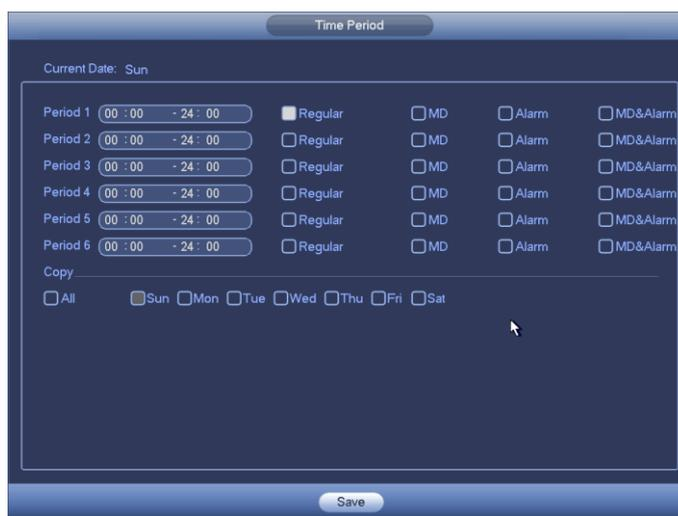

Figure 3-10
● Period setup: Click button  after one date or a holiday, you can see an interface shown as in Figure 3-10. There are four record types: regular, motion detection (MD), Alarm, MD & alarm.